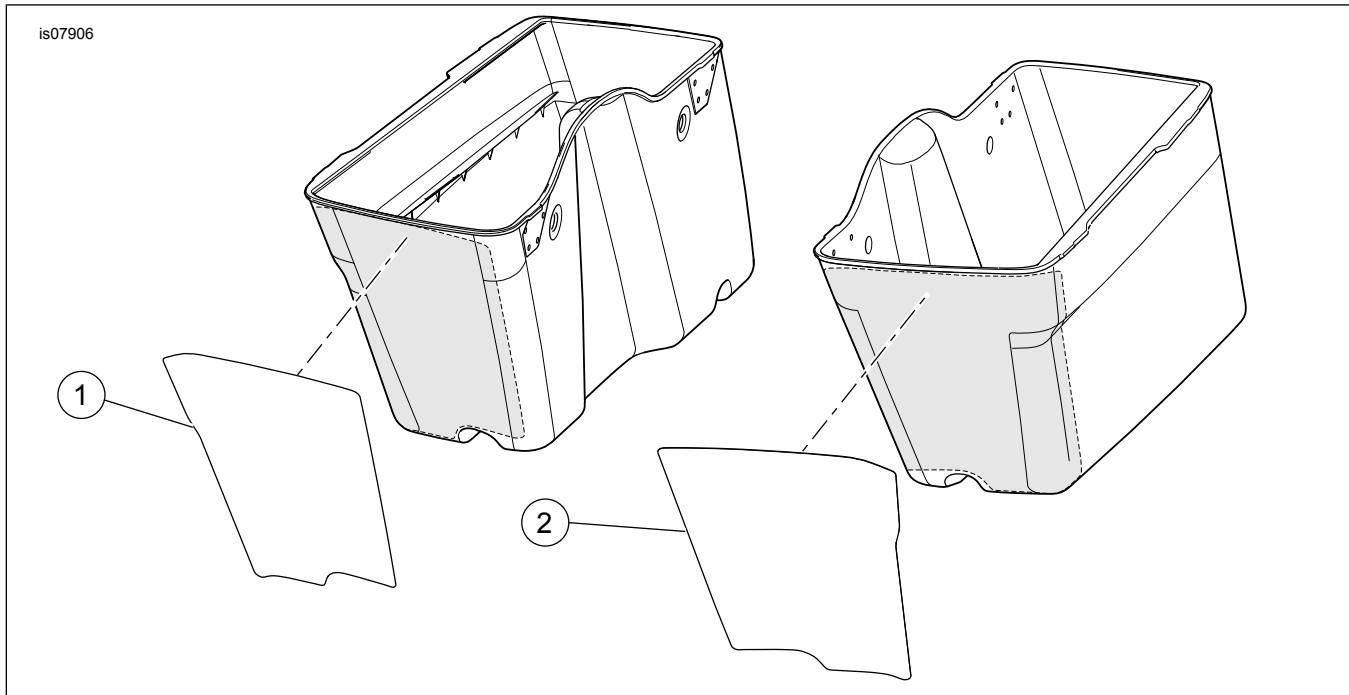

Figure 1. Service Parts: Paint Guard Kit
See Figure 1 and Table 1.
2. See Figure 1. Wash all mounting areas thoroughly. Allow to dry completely.
- See Figure 1. Identify each paint guard piece and its mounting location before proceeding.
2. See Figure 1. Align the paint guard with the top edge of the saddlebag.